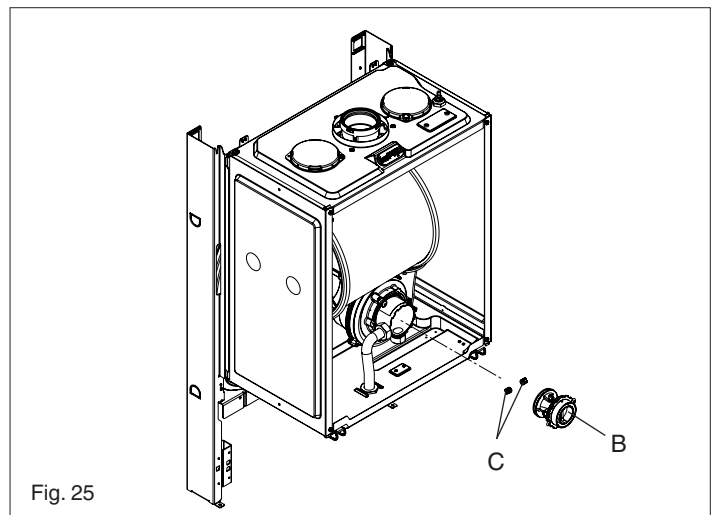

Fig. 25
Carry out component removal procedure as described in 6.4. The gas valve must be changed as complete unit. Disconnect the electrical plug and leads from the gas valve, lacken and unscrew gas valve inlet (gas cock, fig. 14) and outlet (A, fig. 25) connections. **Please note**, the sealing washers (B) must be discarded and replaced with new sealing washers. Disconnect the compensation pipe (C). Locate and remove gas valve retaining screws (D) on the underside of the boiler if required, the gas valve can now be removed. Replace in the reverse order. Check and adjust burner pressure settings. **WARNING, A GAS TIGHTNESS CHECK MUST BE CARRIED OUT.**
6.12.1 LPG NOZZLES (fig. 25)